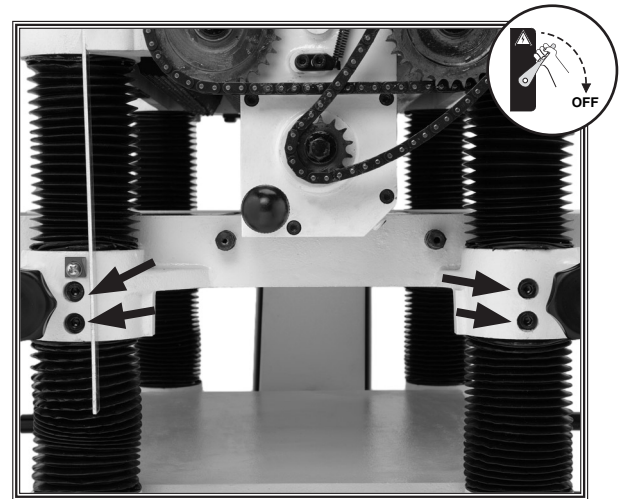

Figure 27. Table micro-adjustment screws.
9. Micro-adjust the table position by loosening the cap screws (Figure 27) using a 6mm wrench, and lifting the table upward or downward until the table and cutterhead are in alignment.